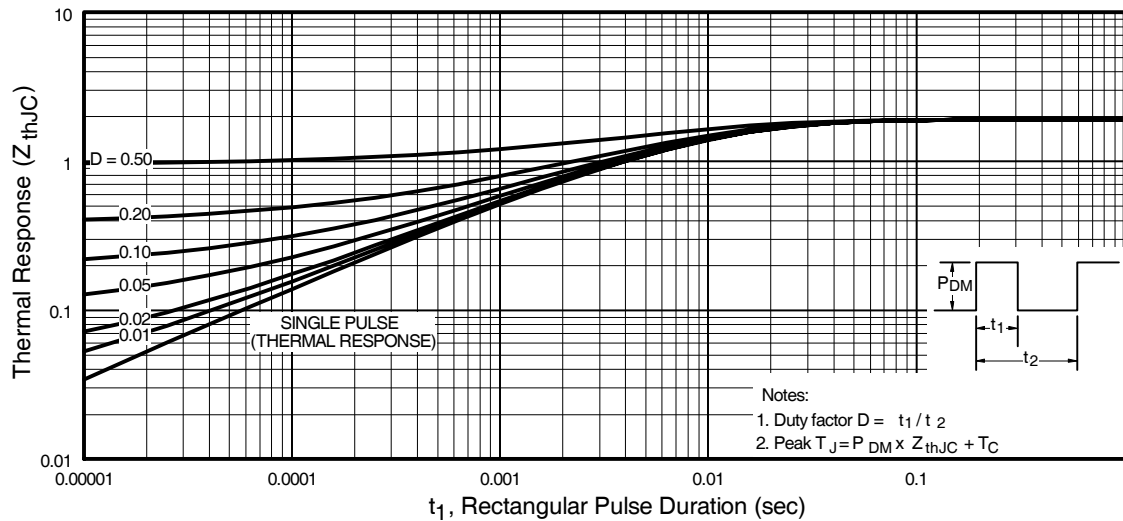

Fig 11. Maximum Effective Transient Thermal Impedance, Junction-to-Case
- ① Repetitive rating; pulse width limited by max. junction temperature. (See fig. 11) ④ Pulse width $\leq 300\mu s$; duty cycle $\leq 2\%$
- ② $V_{DD} = 25V$, starting $T_J = 25^\circ\text{C}$, $L = 3.1\text{mH}$ ⑤ Uses IRL530N data and test conditions